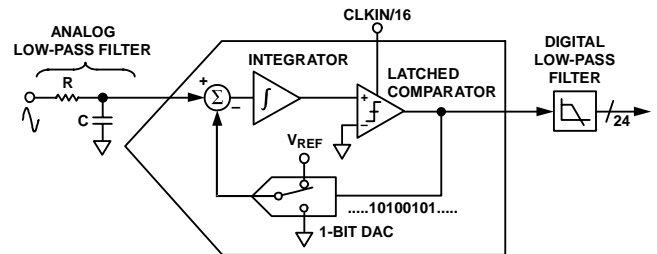
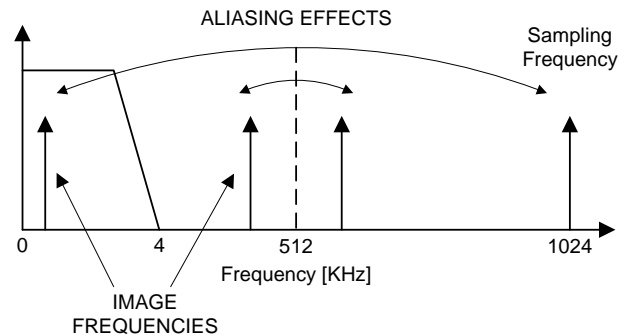

Figure 13. First-Order  $\Sigma$ - $\Delta$  ADC
Figure 15. Aliasing effects at ADE7854
For simplicity, the block diagram in Figure 13 shows a first-order  $\Sigma$ - $\Delta$  ADC. The converter is made up of the  $\Sigma$ - $\Delta$  modulator and the digital low-pass filter.
Figure 13 also shows an analog low-pass filter (RC) on the input to the ADC. This filter is placed outside the ADE7854 and its role is to prevent aliasing. Aliasing is an artifact of all sampled systems and is illustrated in Figure 15. Aliasing means that frequency components in the input signal to the ADC, which are higher than half the sampling rate of the ADC, appear in the sampled signal at a frequency below half the sampling rate. Frequency components (arrows shown in black) above half the sampling frequency (also known as the Nyquist frequency, i.e., 512 kHz) are imaged or folded back down below 512 kHz. This happens with all ADCs regardless of the architecture. In the example shown, only frequencies near the sampling frequency, i.e., 1.024MHz, move into the band of interest for metering, i.e., 40 Hz to 4 kHz. To attenuate the high frequency (near 1.024MHz) noise and prevent the distortion of the band of interest, a LPF (low-pass filter) has to be introduced. For